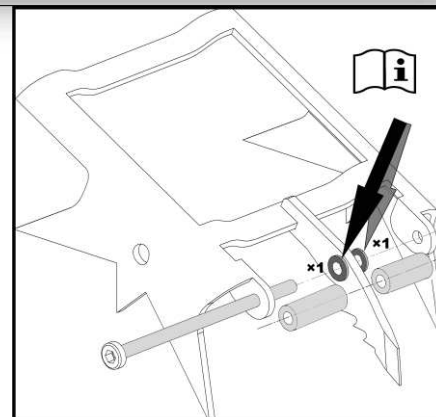

Figure 1
**During assembly:** The front points are supplied with **4 compensation washers** (2 each per front point); these washers must be installed during assembly. Pay attention that the front points have no lateral play on the screw. All balancing sleeves and washers must press together. If the screw is tightened despite play, platform tensions arise, which can lead to a break. The washers are installed as shown in "**Figure 1**" for each crampon. In case of assembly difficulties, please contact us.